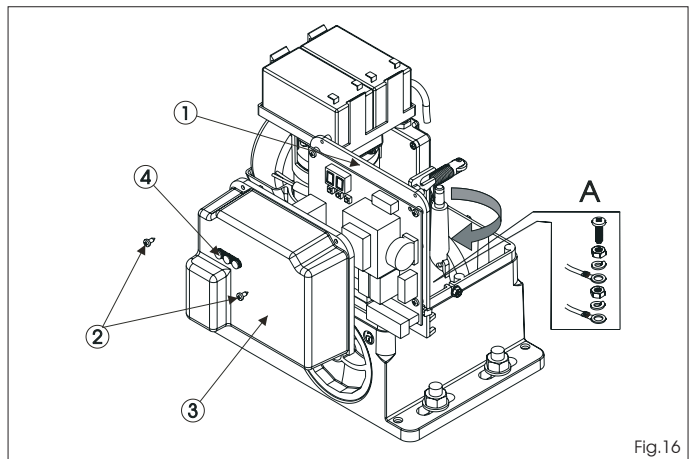

Fig. 16
Connect the earth cables as shown in Fig. 16 ref.A.
In the gearmotors, the electronic control unit is fitted to an adjustable support (Fig. 16 ref. 1) with transparent lid (Fig. 16 ref. 3). The board programming push buttons (Fig. 16 ref. 4) have been located on the lid. This allow the board to be programmed without removing the lid. For correct connection of the control unit, follow indications the specific instructions: